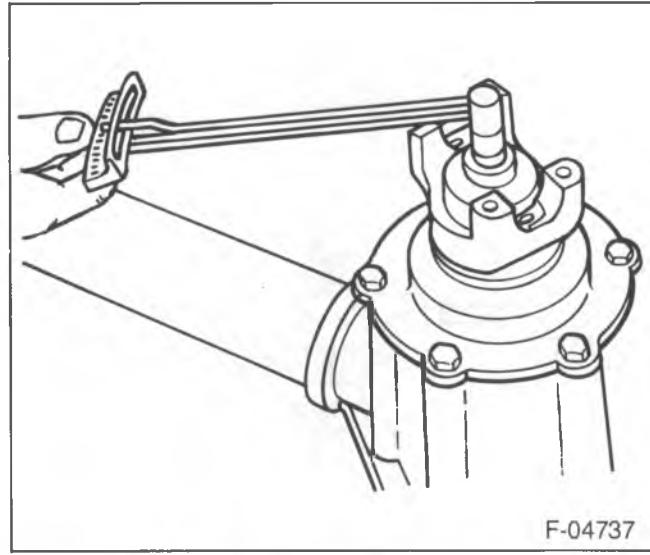

Figure 12—Checking Pinion Preload
- Remove J 8614-01. Using an inch-pound torque wrench, check the pinion preload by rotating the pinion with the wrench. Preload should be at or below 2.8 to 4.0 N·m (25 to 35 in. lbs.) for new bearings, or 0.56 to 1.7 N·m (5-15 in. lbs.) for used bearings (figure 12).
11. Pinion cage (10) to the axle housing. Refer to "Pinion Installation" in this section.